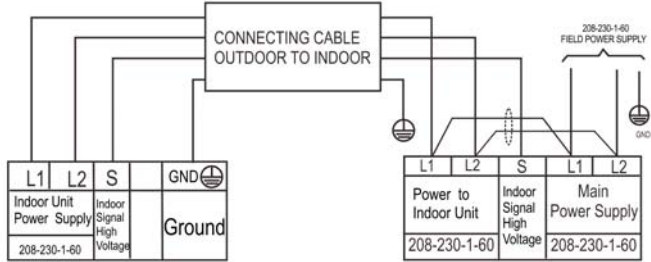
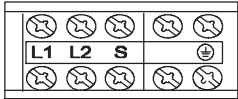

Fig. 20 – Connection Diagrams 9, 12, 18 and 24
Fig. 22 – Control and Power Wiring on Indoor Unit
2. Connect wiring from outdoor unit per connection diagram (see Fig. 20 and Fig. 22).